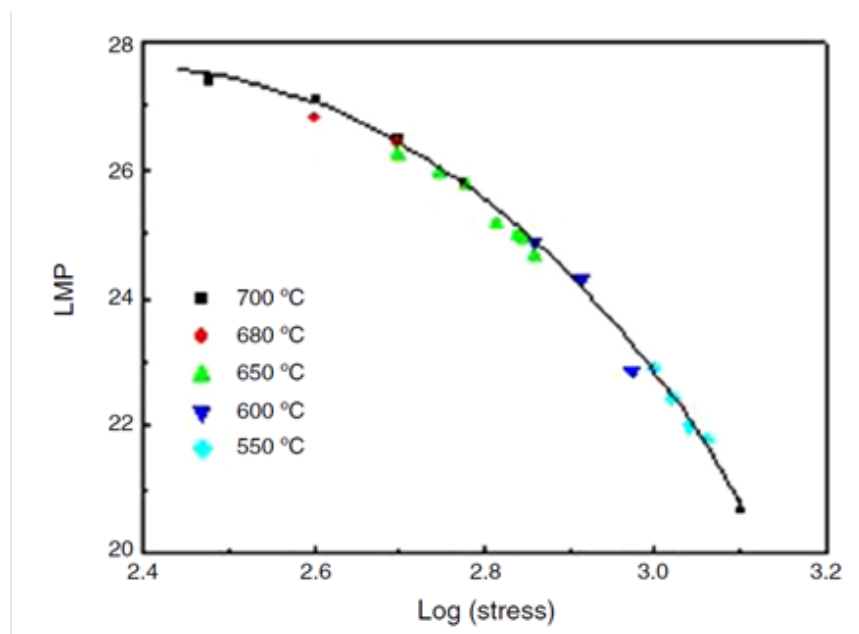

Figure 6. Larson Miller Parameter (LMP) correlation with stress obtained from stress rupture test of Ni-based super alloy.
- b) Your team leader shares the results from stress rupture tests performed at different test parameters on Ni-based super alloy used for turbine blades (shown in Figure 6). Consider that $LMP = T (\ln(t) + c) \times 10^{-3}$ and that the Larson miller parameter constant c is 25.